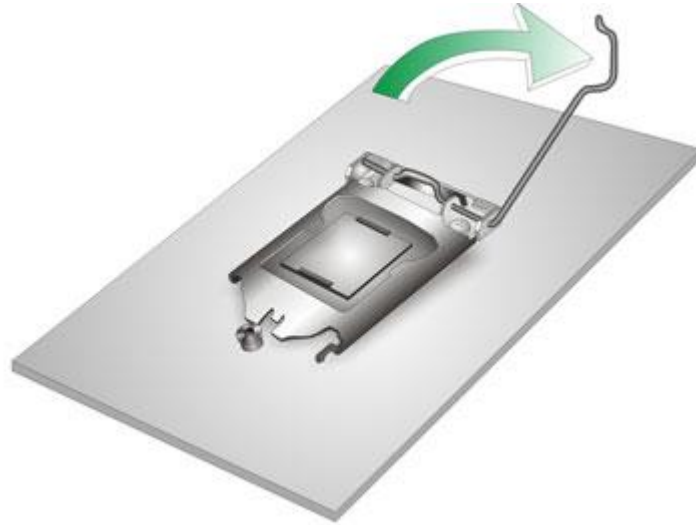

Figure 4-3: Disengage The CPU Socket Load Lever
Step 1: Disengage the load lever by pressing the lever down and slightly outward to clear the retention tab. Fully open the lever. See **Figure 4-3**.